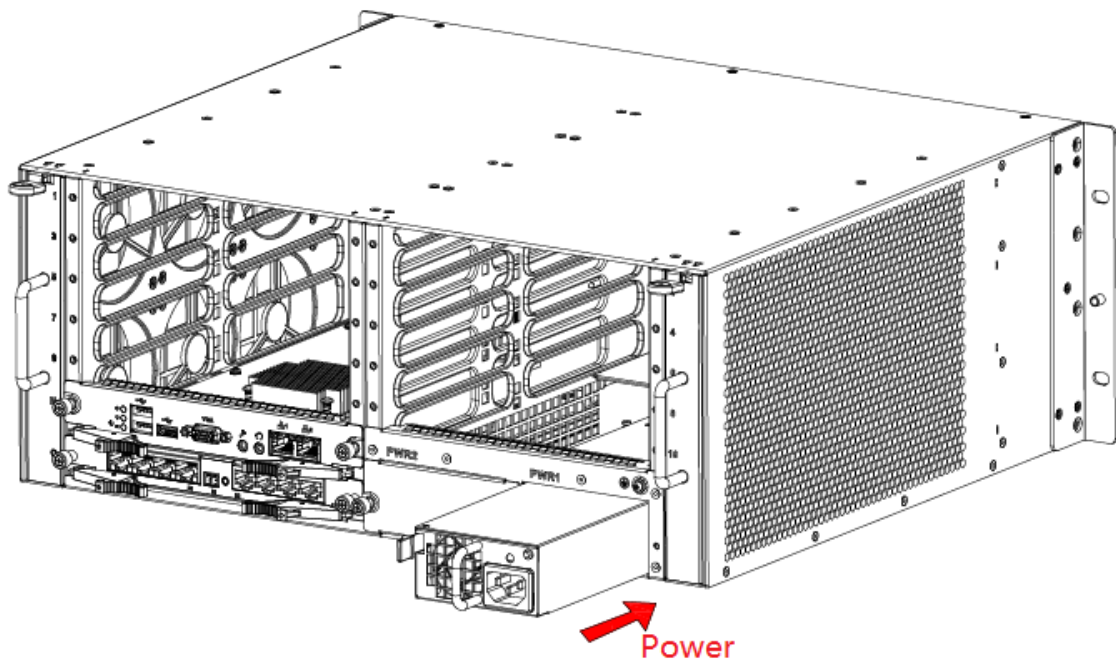

Figure 1-8
**Step 5** Insert power supply and fix it, as shown in Figure 1-8.